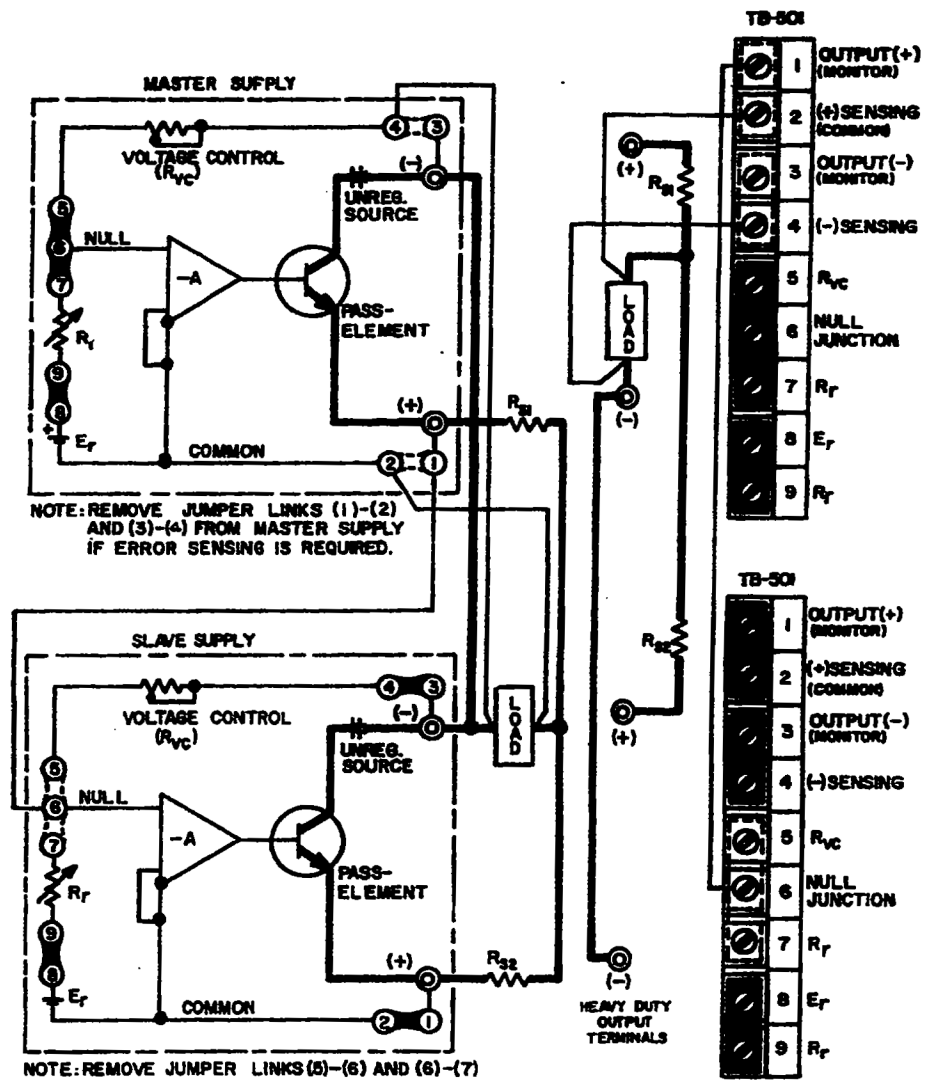

FIG. 3-14 MASTER SLAVE PARALLEL CONNECTION OF KEPKO POWER SUPPLIES
3-45 MASTER/SLAVE PARALLEL CONNECTION. Two power supplies are shown in FIG. 3-14, although more can be paralleled, each unit requiring its own sampling resistor. The sampling resistors (R_{S1} , R_{S2} in FIG. 3-14) are of equal value and are selected such that the voltage drop across them (due to the output current), plus the voltage drop in the load connection leads does never exceed 0.5 volts. If the voltage drop across the load connecting leads alone is at least 0.1 volt, the sensing resistors can be deleted since the leads provide the necessary sample voltage. For equal current sharing, however, the lead *length* and *diameter* should be the same for both power supplies. Output control is exercised from the "Master" supply.
3-46 PROCEDURE FOR "MASTER/SLAVE" PARALLEL OPERATION (See FIG. 3-14)
- 2) Make all load and sensing connections as shown in FIG. 3-14. The error sensing connections may be deleted if the minor voltage drop across the load wires (which subtracts from the available compliance voltage) can be tolerated.